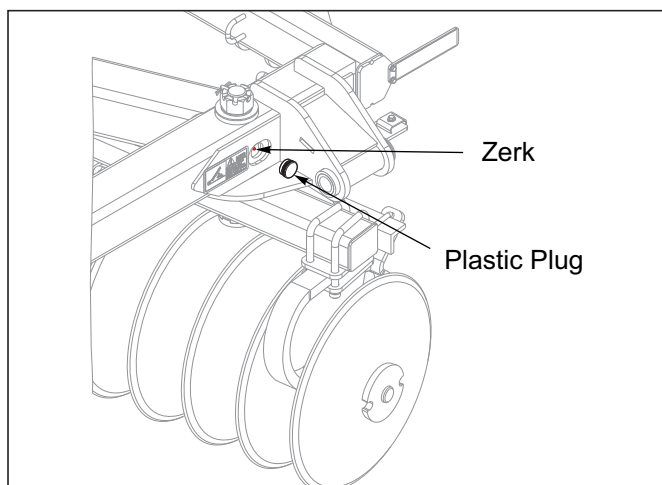
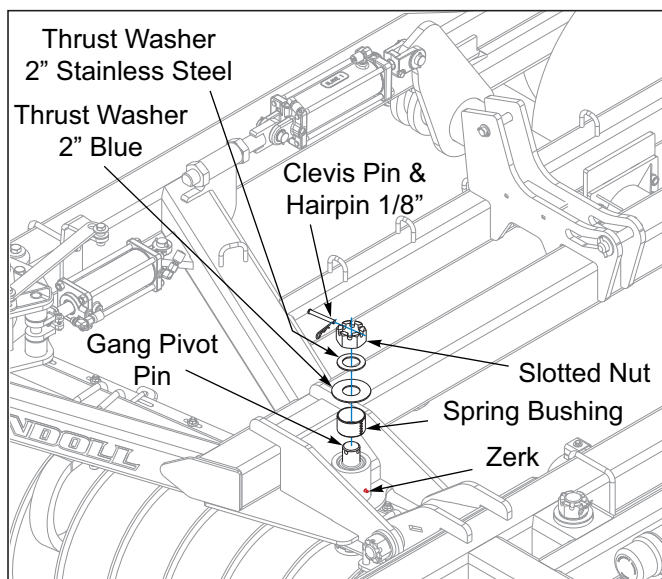
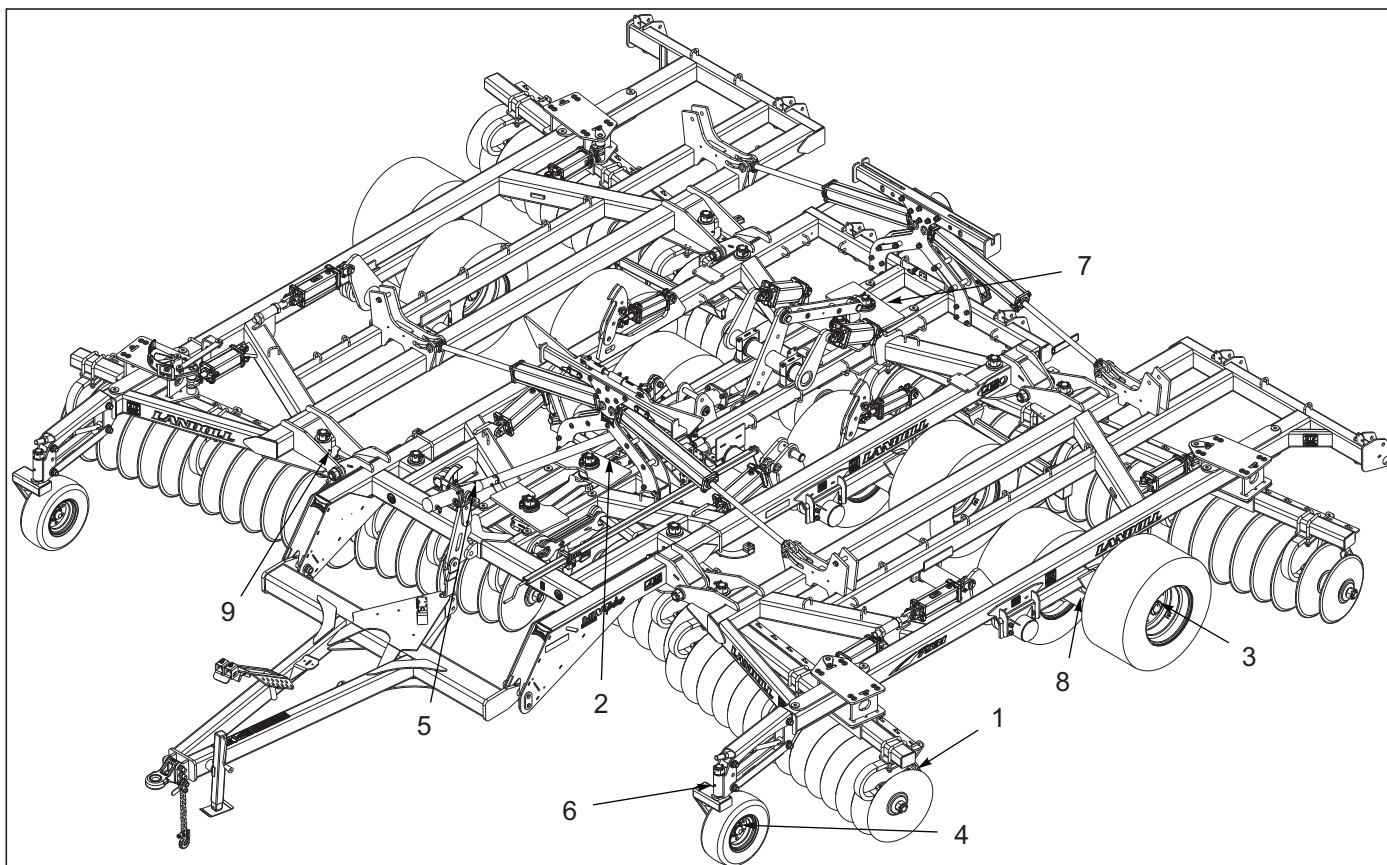

Figure 5-3: Center Frame Plastic Plug
Figure 5-4: Gang Pivot Pin
Figure 5-7: Lubrication Schedule
1. A proper maintenance schedule will insure a long operating life and peak performance. Performing the following lubrication will ensure maximum operating life of the 7531 See Figure 5-4 and See Figure 5-7.
7. On (4) center frame disc gang pivots the plastic plugs will need removed to grease the pivot pins, annually **See Figure 5-4**. Grease until it purges out the top or bottom. Replace plastic plugs to keep contamination out.
8. Remove the 1/8 hairpin and clevis pin, annually to check to see if slotted nut is still tight **See Figure 5-4**, if it is real loose remove pin and check for wear on pin or spring bushings. Replace pin or bushings if needed. If nut is still tight, re-install the clevis pin and 1/8 hairpin. Grease all pivot points **See Figure 5-3**.